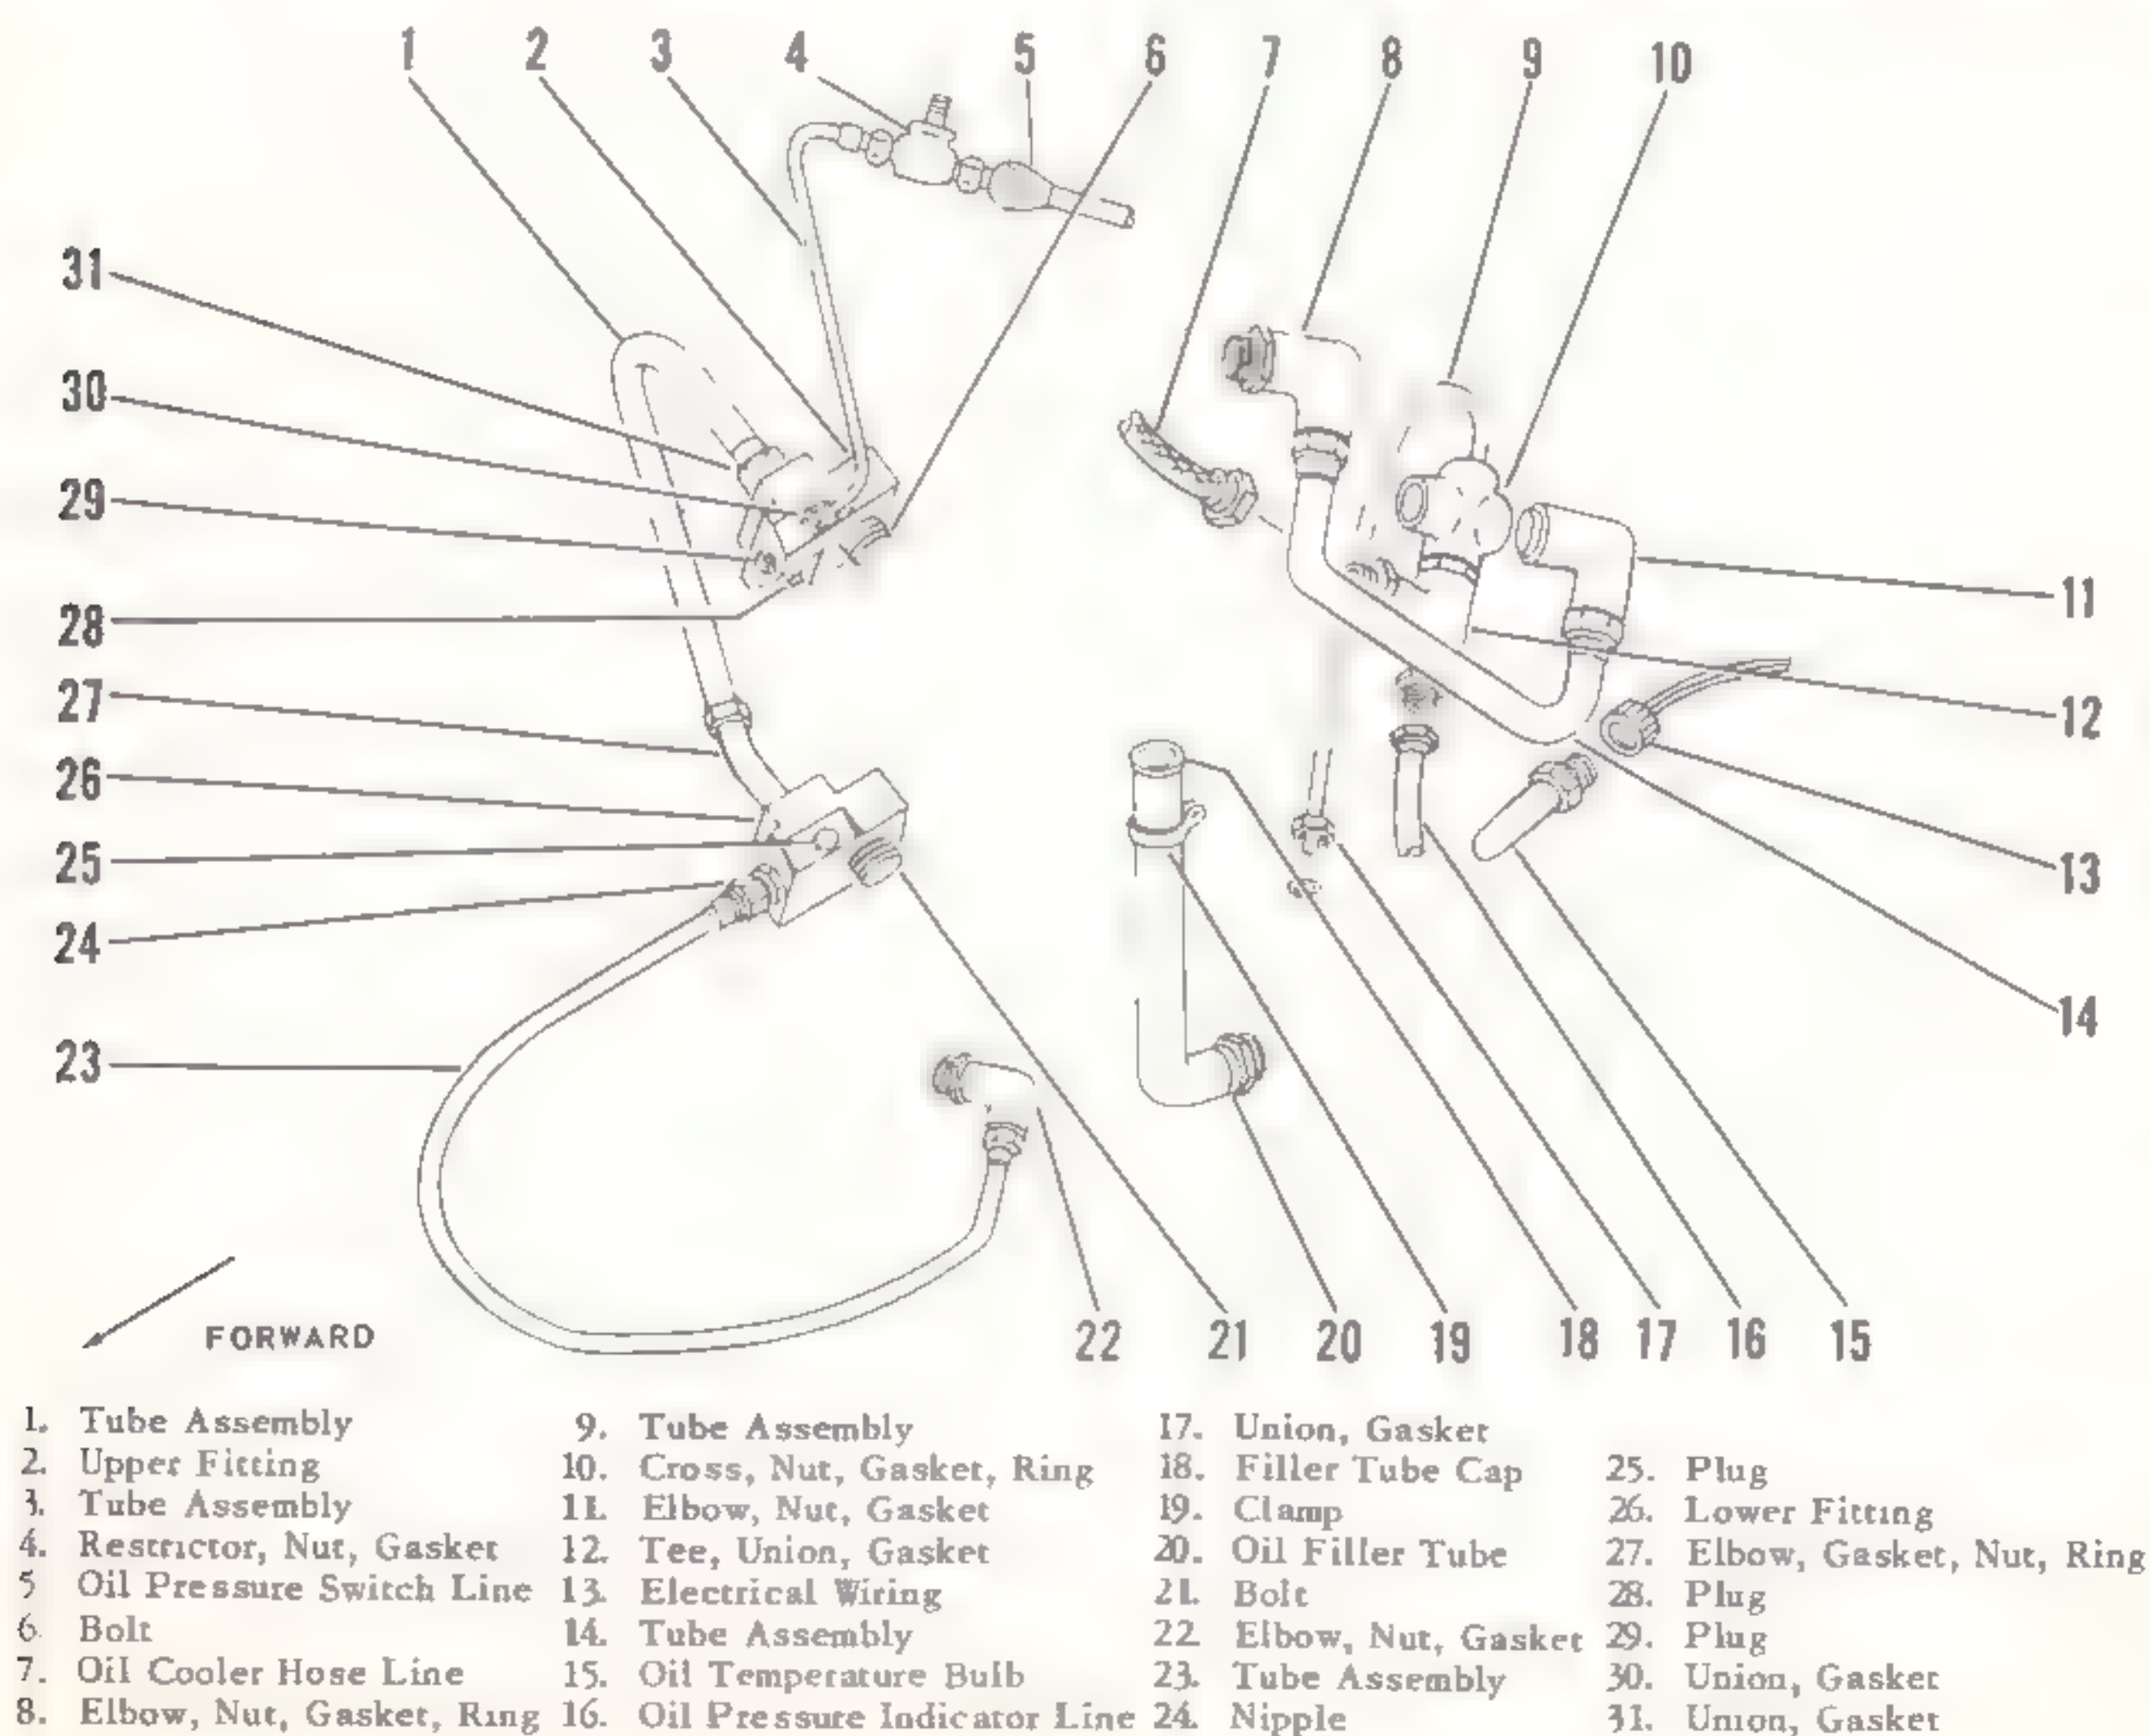

Figure 7-12. Main transmission oil separator installation (helicopters serial No. prior to 54-2882)
c. Disconnect electrical wiring (13, figure 7-12) from oil temperature bulb (15). Unscrew and remove oil temperature bulb and remove gasket.
d. Disconnect and remove tube assembly (23) from elbow in port at lower left side of main transmission and from nipple (24) in lower fitting (26) at front of main transmission. Remove elbow, nut, and gasket (22) from main transmission and nipple (24) from fitting.
e. Disconnect and remove tube assembly (1) from elbow at lower fitting (26) and from union at upper fitting (2). Remove elbow, gasket, nut, and ring (27) from lower fitting and union and gasket (31) from upper fitting.
a. Install plugs (25, 28, and 29, figure 7-12) in upper and lower fittings (2 and 26). Tighten to a torque of 95 to 110 inch-pounds.
c. Position oil filler tube (20) at elbow located on left side of main transmission and secure with nut and coupling. Secure oil filler tube to main transmission support with clamp (19).